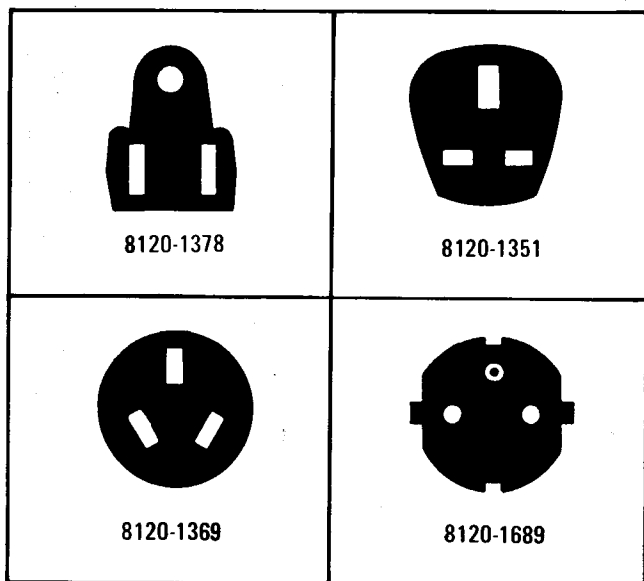

Figure 4. Power Cable HP Part Numbers Versus Mains Plugs Available
(For HP Part Number refer to Figure 4)
21. In accordance with international safety standards, this instrument is equipped with a three-wire power cable. When connected to an appropriate ac power receptacle, this cable grounds the instrument cabinet. The type of power cable plug shipped with each instrument depends on the country of destination. Refer to Figure 4 for the part numbers of the power cable plugs available.